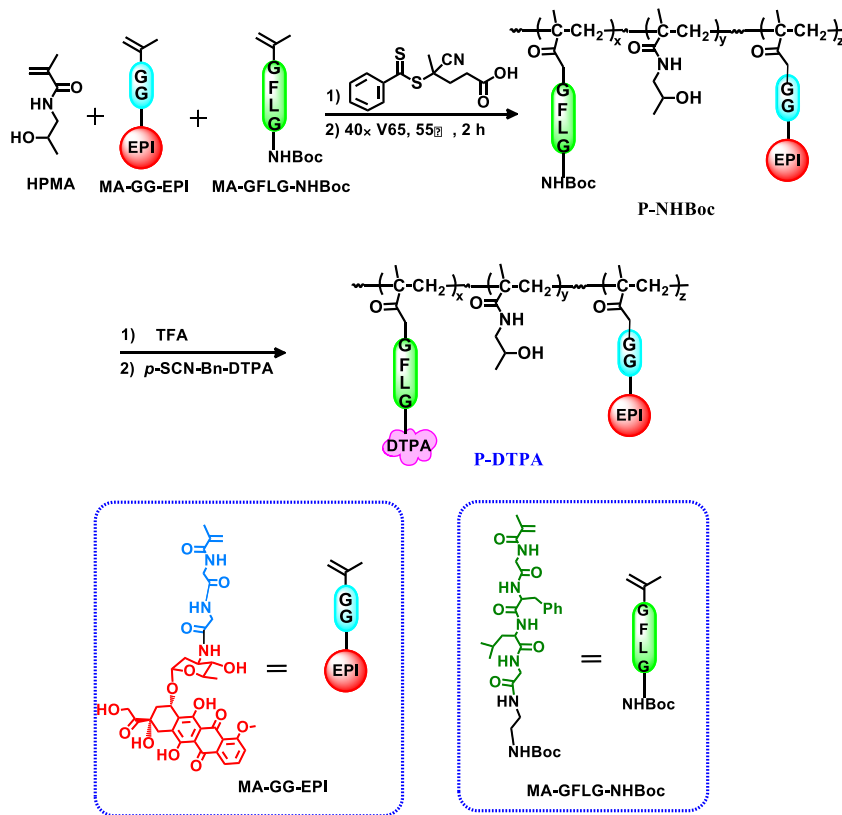

Fig. S5. Synthesis of conjugate P-DTPA.
5. Synthesis of conjugates P-DTPA	(Fig. S5)